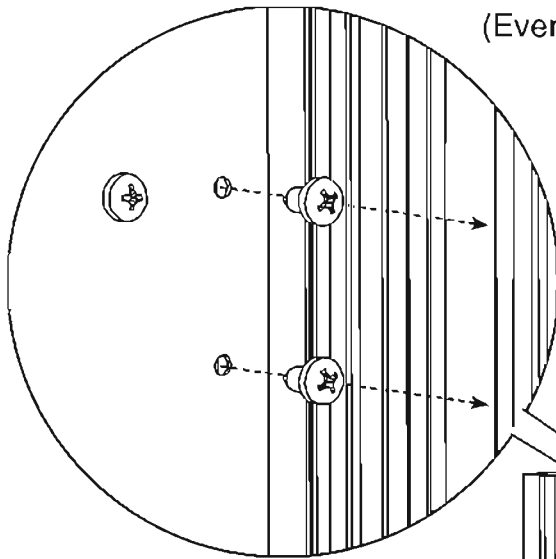

Figure 5.
5. Remove the 2x fixing screws from the controller chassis plate and release the dew point sensor assembly. (See Figure 5 & 6)